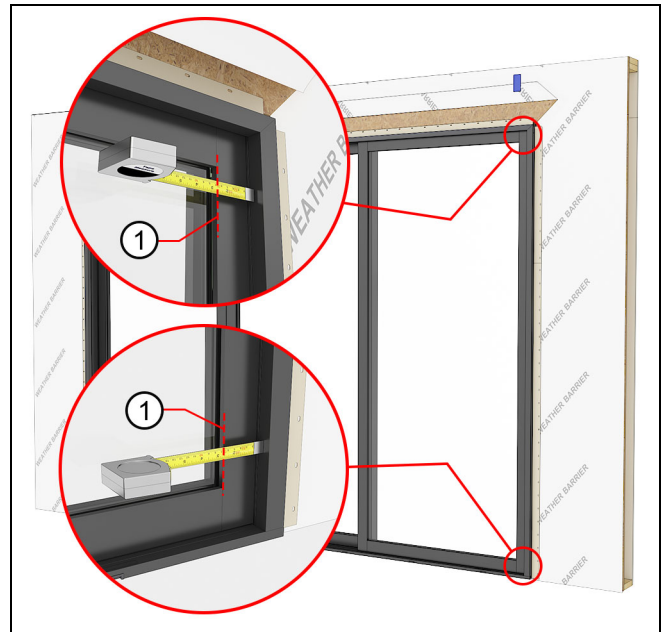

Figure 103
11. Measure from the jamb to the edge of the daylight opening. This should be about 2 5/8". See Figure 103.